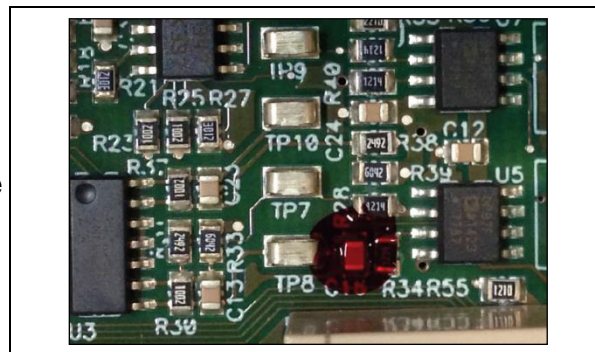

Figure 10: Example photo
- (4) Take a photo of the coating on the capacitor (image area as shown in Figure 10).
- (5) Fill in the feedback form and upload the photo: Mandatory action # 4